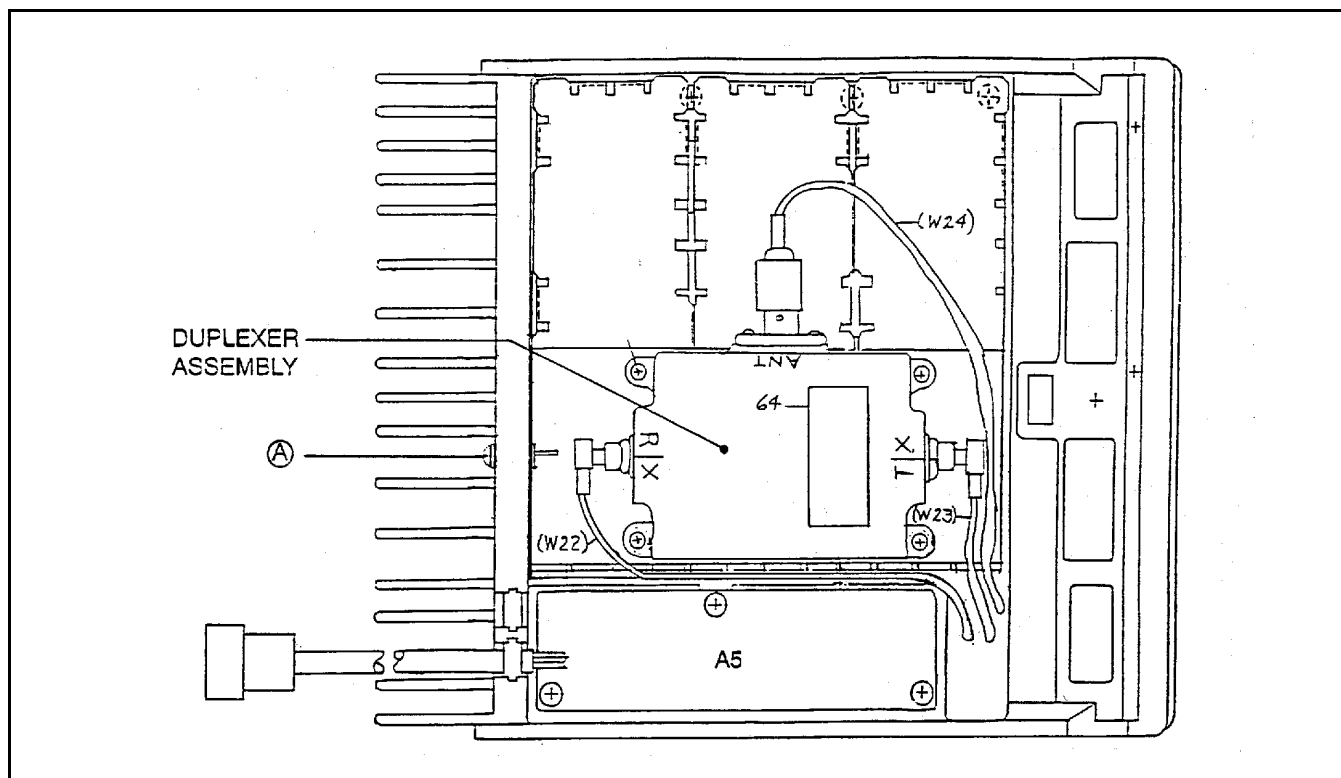

Figure 2 - Bottom View With Duplexer
2. Refer to Figure 2. Remove the single M3.0-0.8 X 20 (#10 drive) TORX screw "A", located on the rear of the radio, that secures the duplexer assembly to the casting.